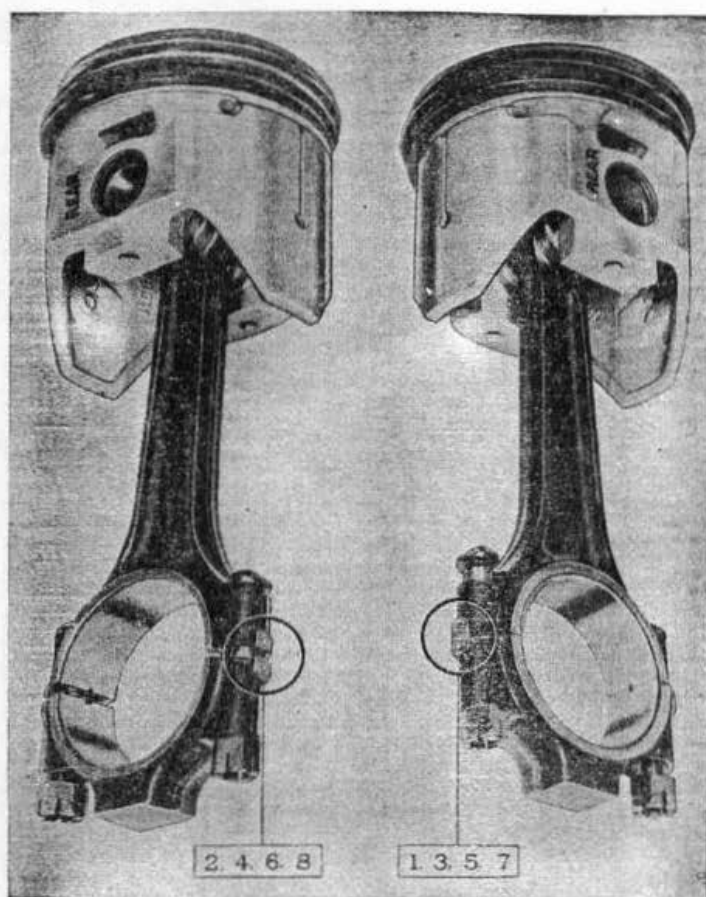

Fig. 14 1949-54 connecting rods and pistons
1949-54—Assemble and install piston and rod assemblies as shown in Fig. 14.
2. Position connecting rod in its respective piston, Fig. 14.